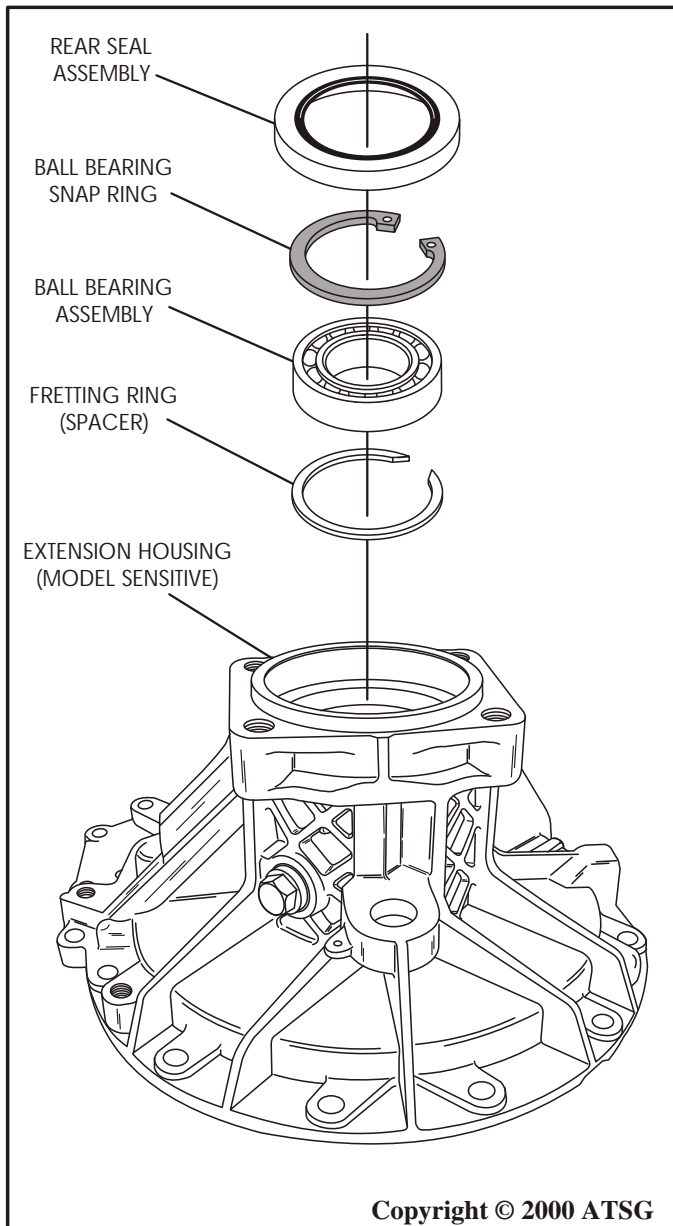

Figure 135
5. Position the extension housing on a flat work surface with the rear facing up, as shown in Figure 135.
6. Install the ball bearing fretting ring into the extension housing bore (See Figure 135).
7. Install the ball bearing and the retaining snap ring, as shown in Figure 135.
8. Install the rear metal clad seal (if used) into the extension housing, using the proper seal driver as shown in Figure 135.